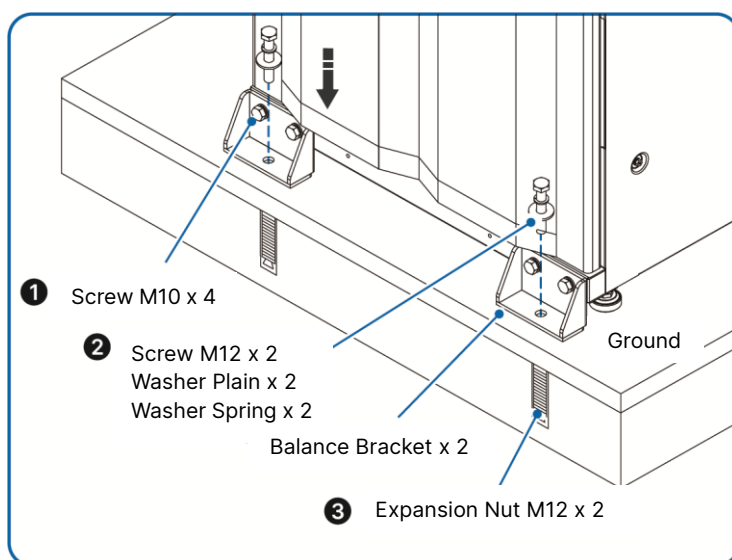
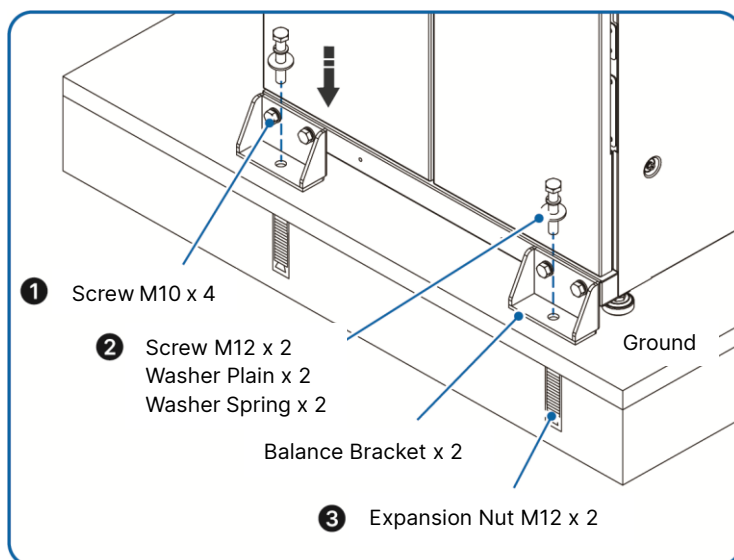

Figure 5-6: Balance Bracket Installation_ Front of the UPS
Figure 5-7: Balance Bracket Installation_ Rear of the UPS
Use eight M10 screws (four for the front, four for the rear) ❶ and four expansion M12 screws, washer plains and washer springs (two for the front, two for the rear) ❷ to fix the UPS on the ground with four balance brackets. Please refer to **Figure 5-6~ Figure 5-7**. The eight M10 screws and the four balance brackets are those been taken apart from the UPS earlier while moving the UPS from the pallet to the ground (see **5.3 Transportation**). As for the four expansion nuts, they should be provided by qualified service personnel.